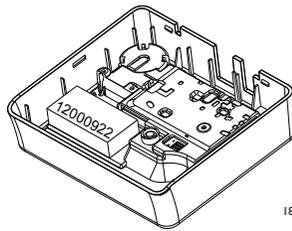

Figure 3: Preparing the panel
- On the panel, remove the foam pad (12000922) and apply the foam pad provided in the standalone communicator cellular kit. See figures 3 and 5.